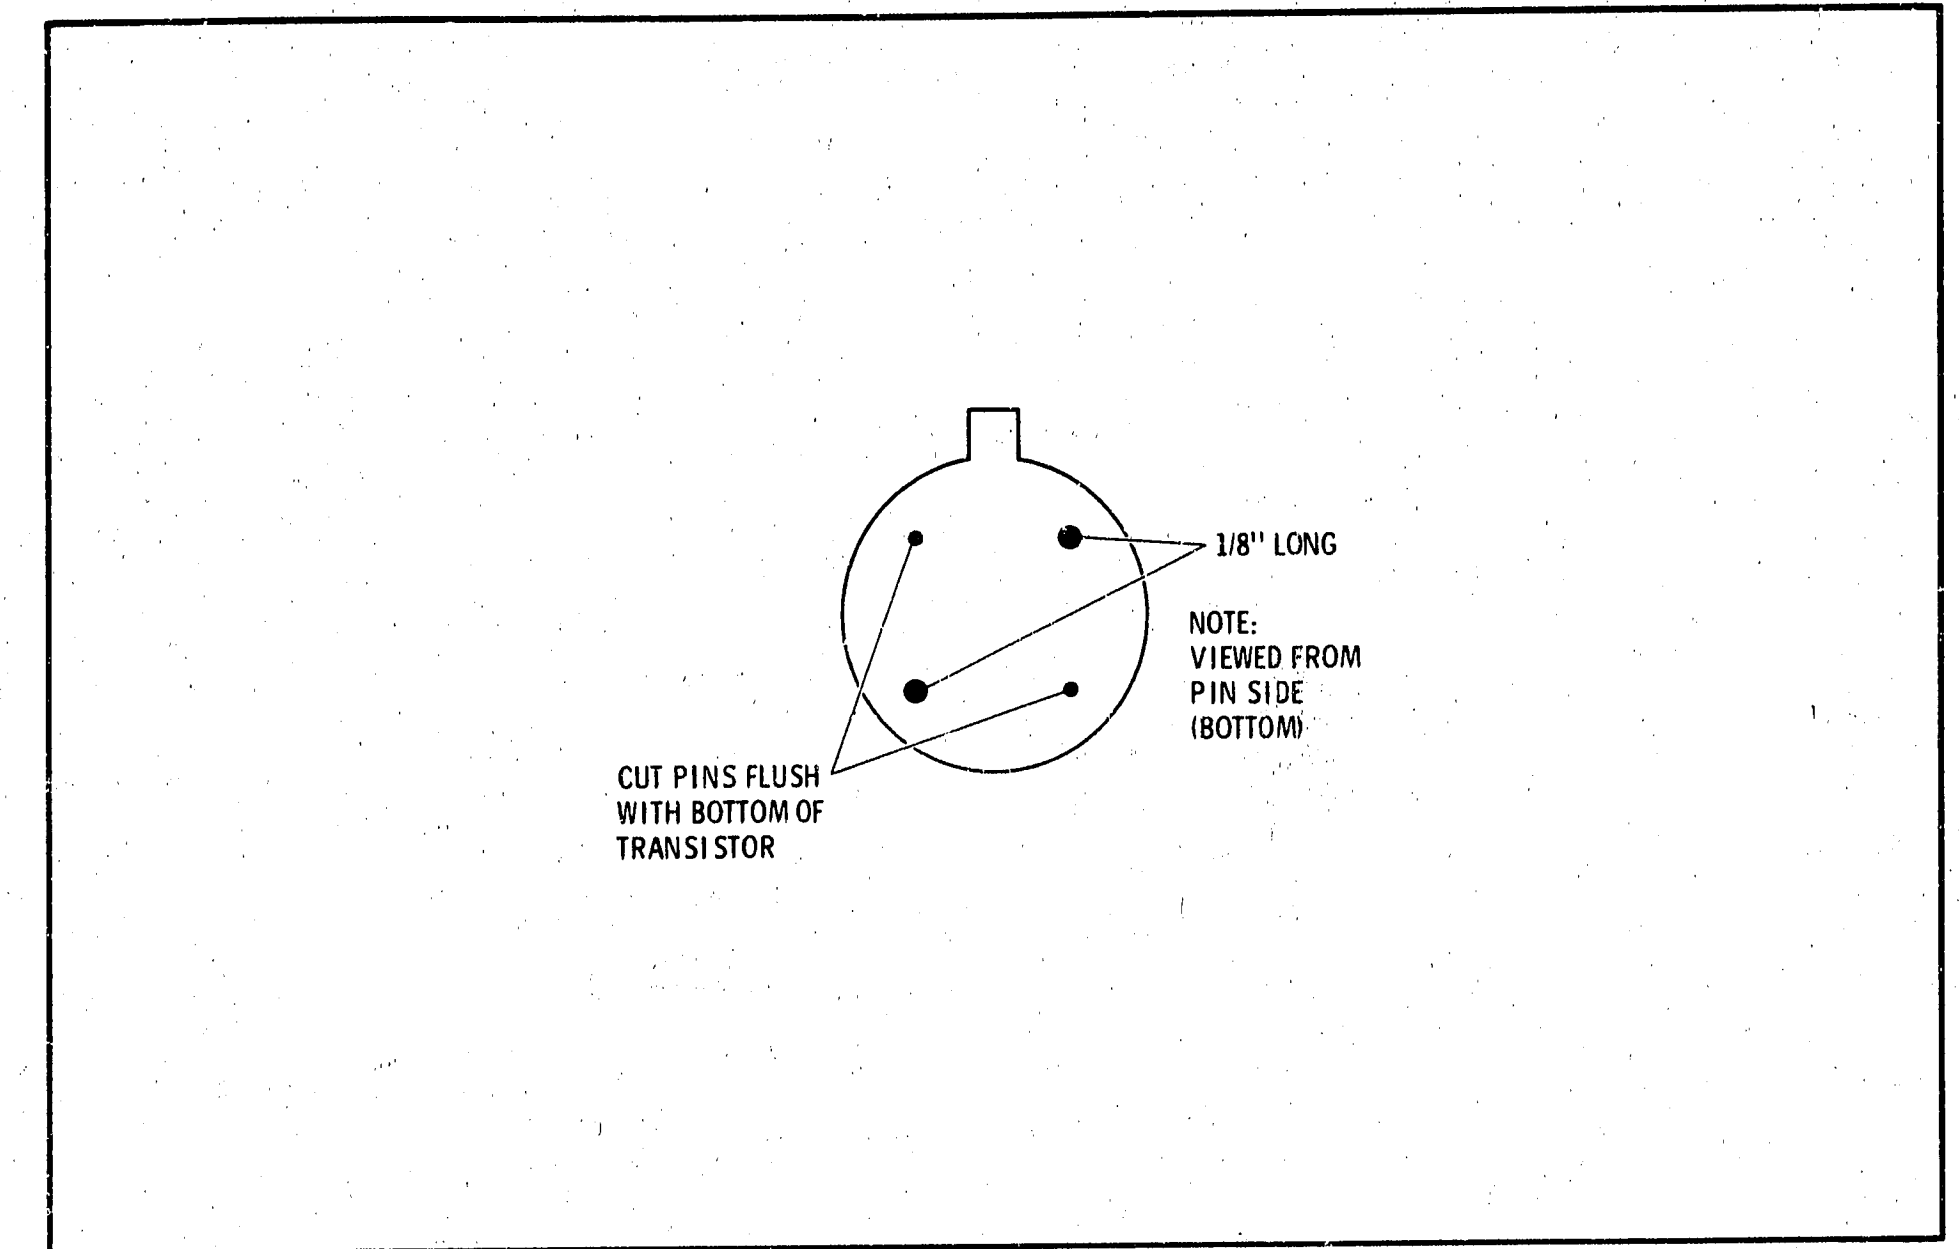

Figure 8-85. RF Oscillator Transistor Preparation
1. Unscrew transistor cap (22).
2. Remove transistor (21).
3. Clip new transistor leads as shown in Figure 8-85.